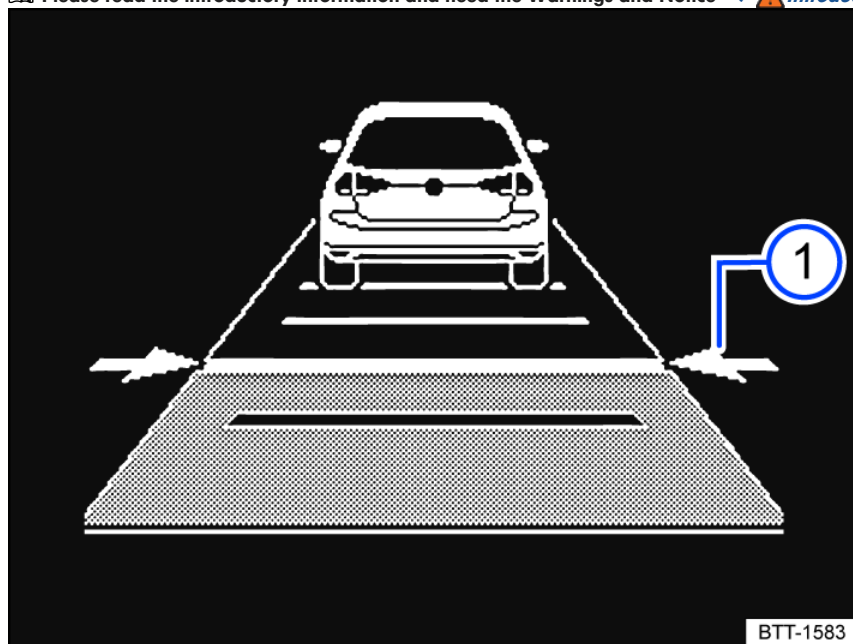

Fig. 131 In the instrument cluster display: set distance ① (schematic diagram, ACC is regulating).
The instrument cluster display shows the selected level fig. 131 ①. Heed the country-specific regulations for minimum distance.